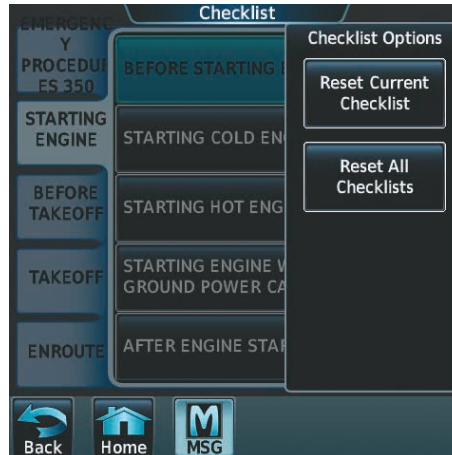

Figure 8-127 Checklist Options
- 4) Touch **Reset Current Checklist** as seen in Figure 8-127.
- 3) Touch **Reset All Checklists** as seen in Figure 8-127.